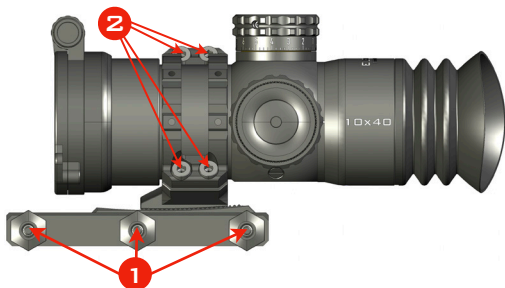

FIG. 2
- 2) Loosen the Base Nuts (Fig.2, Pos.1) and fit the mount to the rail, ensuring that the cross bolts fit correctly in the rail slots. Shoulder the rifle to check whether eye relief is correct, and adjust mount position accordingly. Torque the nuts down to **50 in.lbs (5.7Nm)** using a 13mm or 1/2" Socket.
- 3) If the scope needs to be levelled, loosen the ring screws and adjust the scope position until cant error is removed. Once you are happy with the position of your riflescope, begin to torque down your rings in a criss-cross pattern, moving between screws (Fig.2, Pos.2) and turning small amounts at a time. **Use a torque of 1.2-1.5 Nm (10.6-13.3 in-lbs) for the ring screws.**